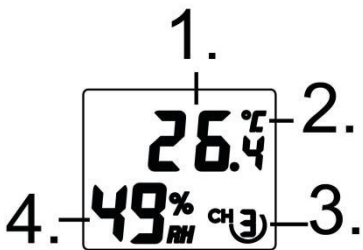

Figure 5
8. Verify the correct channel number (CH) and temperature units of measure are on the display, as shown in Figure 5.